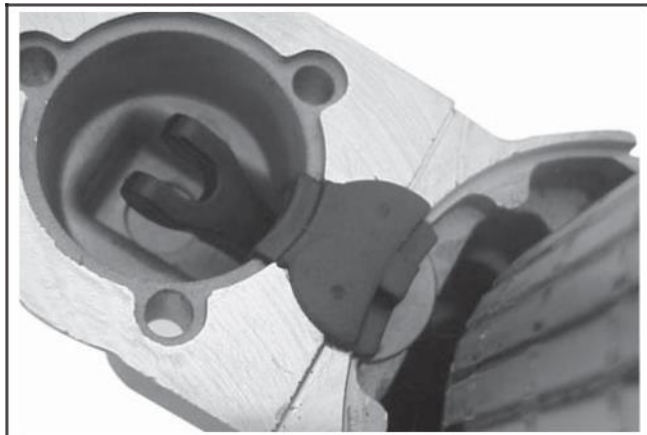

Figure 8-57. Installing Backup Washer and Grommet.
7. Install the backup washer, followed by the rubber grommet, into the matching recess of the drive end cap. The molded recesses in the grommet should be “out”, matching and aligned with those in the end cap. See Figure 8-57.